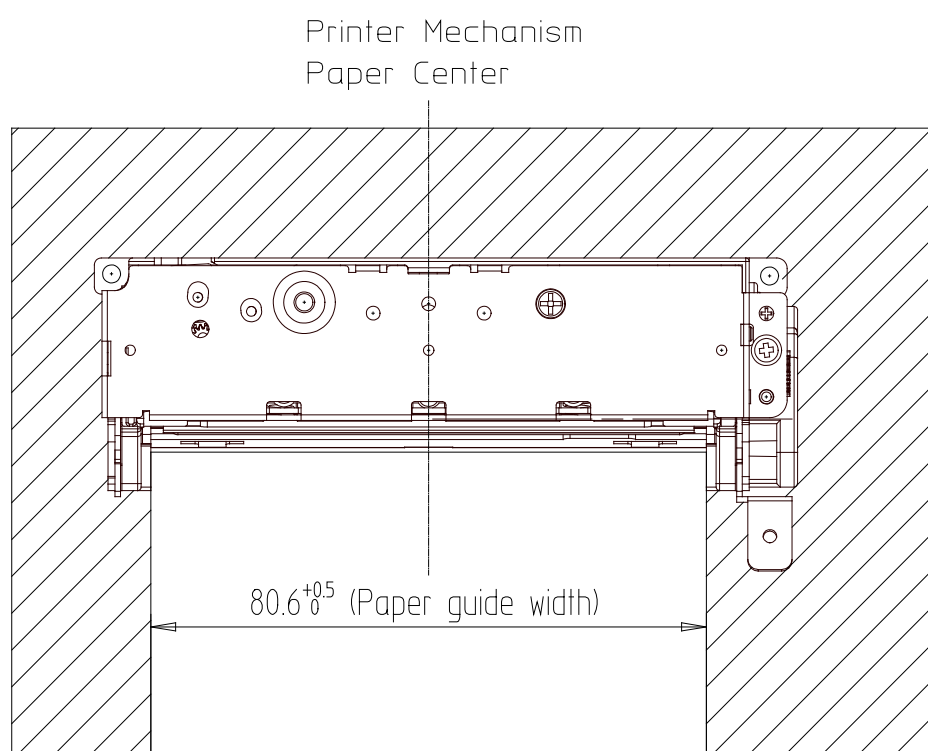

Fig 9-1 Dimension of width and position of the paper guide device
Design the path of the paper in printer mechanism as shown in Fig 9-1. Design the paper path angle within a range of 30 degrees, as shown in the drawing below. The larger the paper path angle, the significantly reduced paper feed force on the printer and the result of paper feed fail.
- Refer to Fig. 9-1 for designing the width of the paper guide device.